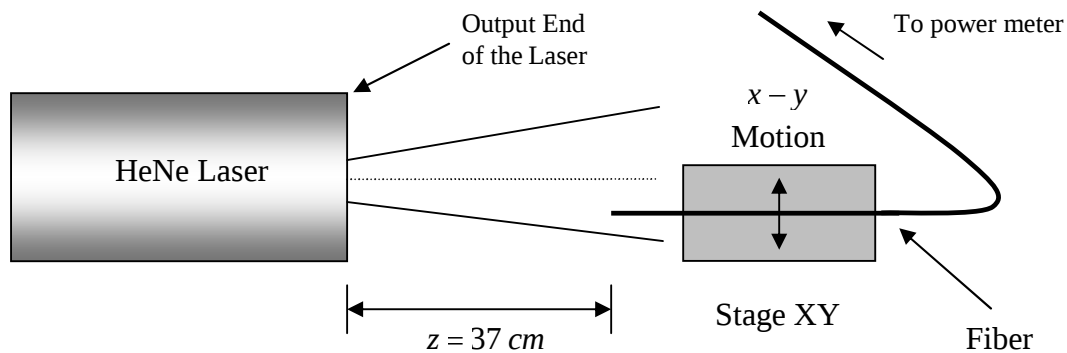

Figure 4: Direct Light Coupling Setup.
- 1- Connect the fiber to the fiber's holder on the horizontal/vertical translation stage (Stage XY) and adjust the distance between the laser to the fiber's tip to $z = 37\text{ cm}$ (see Figure 4).